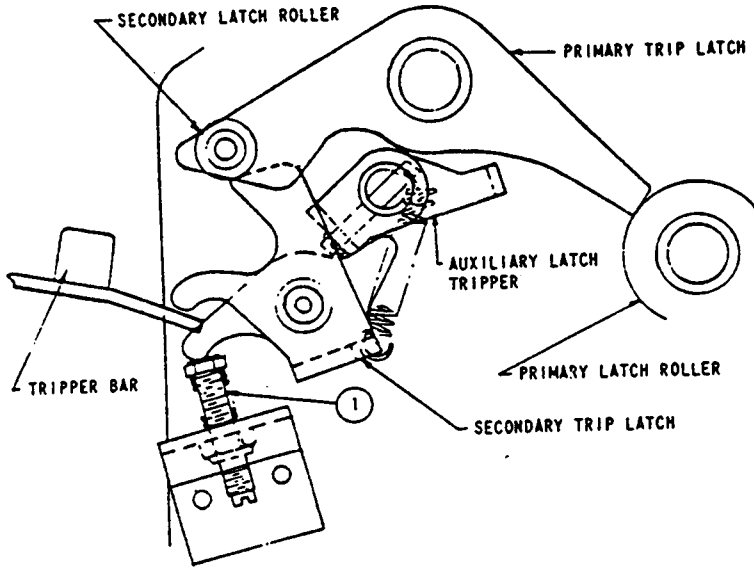

Fig. 5 — Primary Trip Latch Adjustment
Figure 5 shows the arrangement necessary for the breaker to be in the closed position. The spring holds the secondary trip latch down against screw (1). The secondary trip latch holds the secondary latch roller up, which in turn holds the opposite end of the primary trip latch down. This prevents the primary latch roller from moving to the left and opening the breaker. If none of the various trip devices are acting on the tripper bar or the auxiliary latch tripper to open the breaker or to prevent the breaker from closing and the breaker still will not close, then the following adjustment should be made.